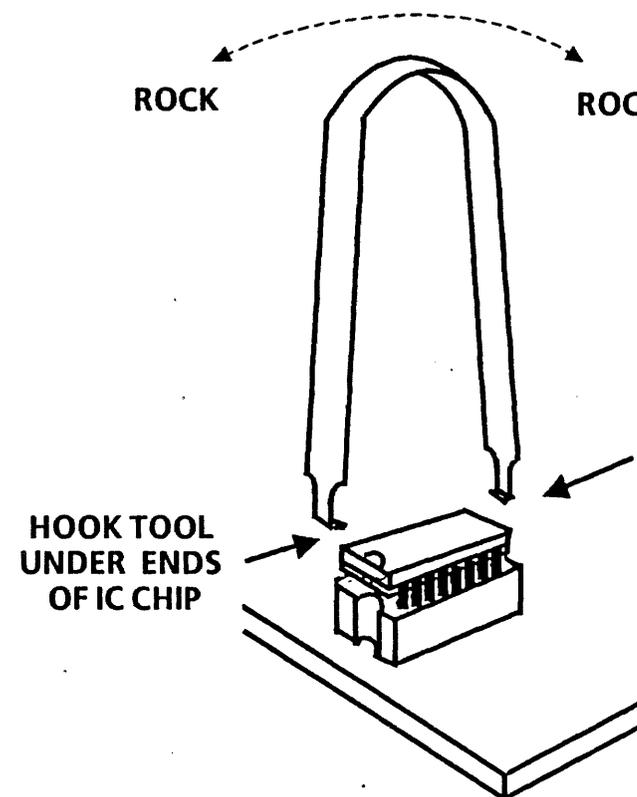

Figure 4-14 IC Chip Removal
**4.17 IC CHIPS****REMOVAL (Figure 4-14)**